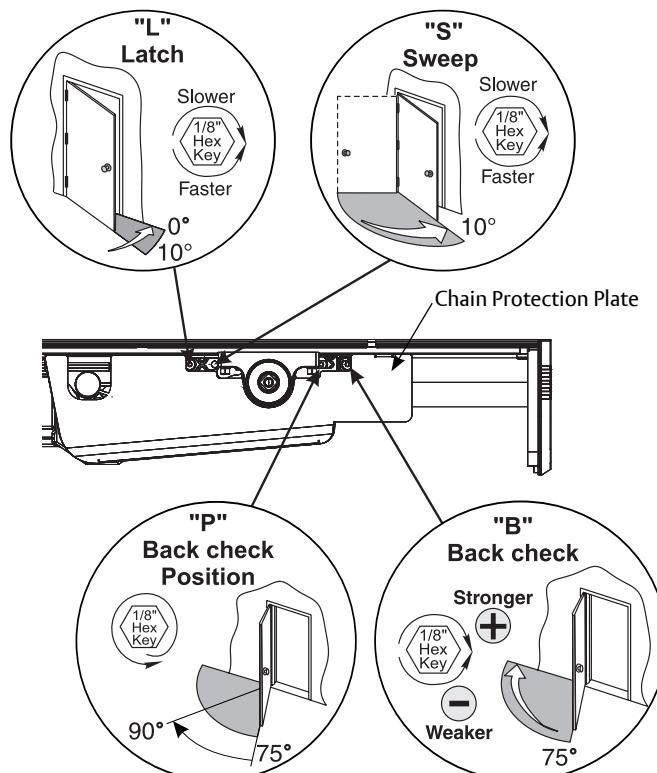

Figure 20 | View from ceiling looking down
- Chain protection plate cutouts allow access to valves. Use hex wrench to make adjustments (Figure 20)
1. Closing Speed Controls (Figure 20)
2. Opening Cycle (Figure 20)